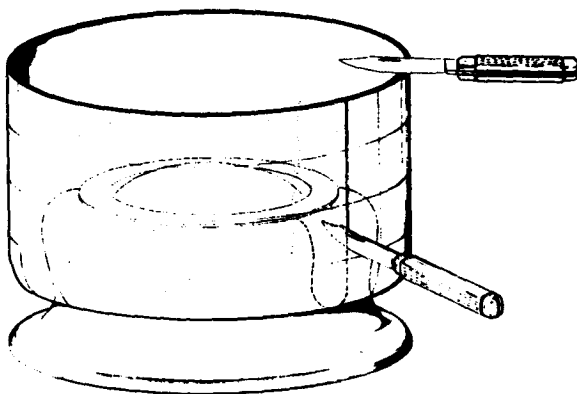

Fig. 12: Removing Damaged Air Bag
2. Cut the top half of the bag off, by cutting through it and around its full circumference. Then cut from this upper surface down to the lower sealing lip (Fig.12).